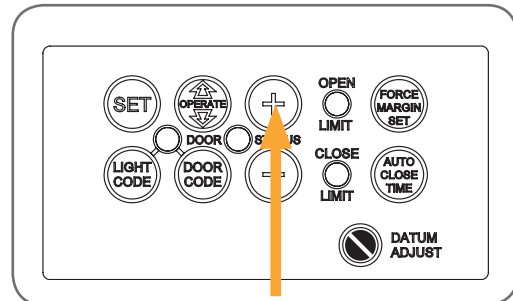

fig 43
- Make sure the door is closed, then press and hold the PLUS (+) button for six (6) seconds (**Fig. 43**), until you hear three beeps and the OPEN and CLOSE LEDs flash rapidly.